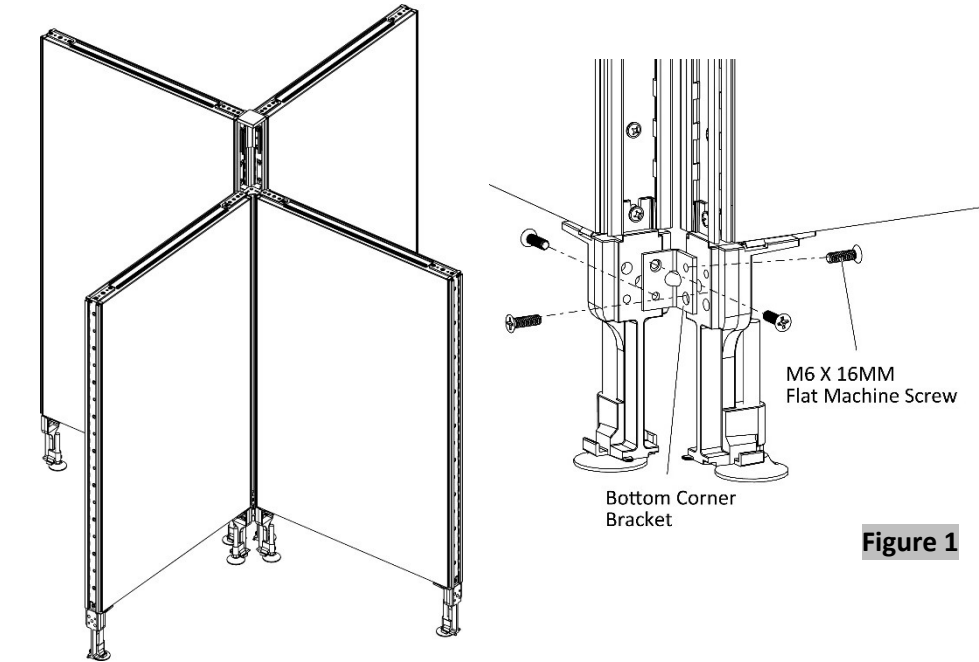

Figure 1
2. Securely fasten bottom corner bracket to panel legs with four M6 X 16MM Flat Machine Screws, (Figure 1).